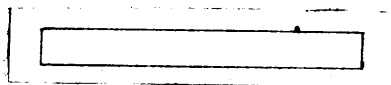
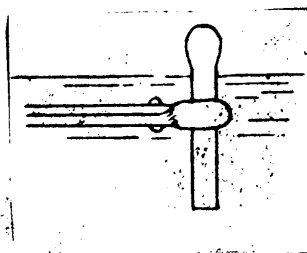

Figure 1.
Figure 2.
1. Mark 1" where stock is to be upset to. (Figure 1)
2. Heat stock to cherry red as described in job on "Heating Metal". Do not heat any farther than the mark in Figure 1. Sometimes it is impossible to heat only a limited amount.
3. If heated below mark in Figure 1, then cool back to the desired point by dipping in water. (Figure 2). This should be done quickly, but is not always necessary.